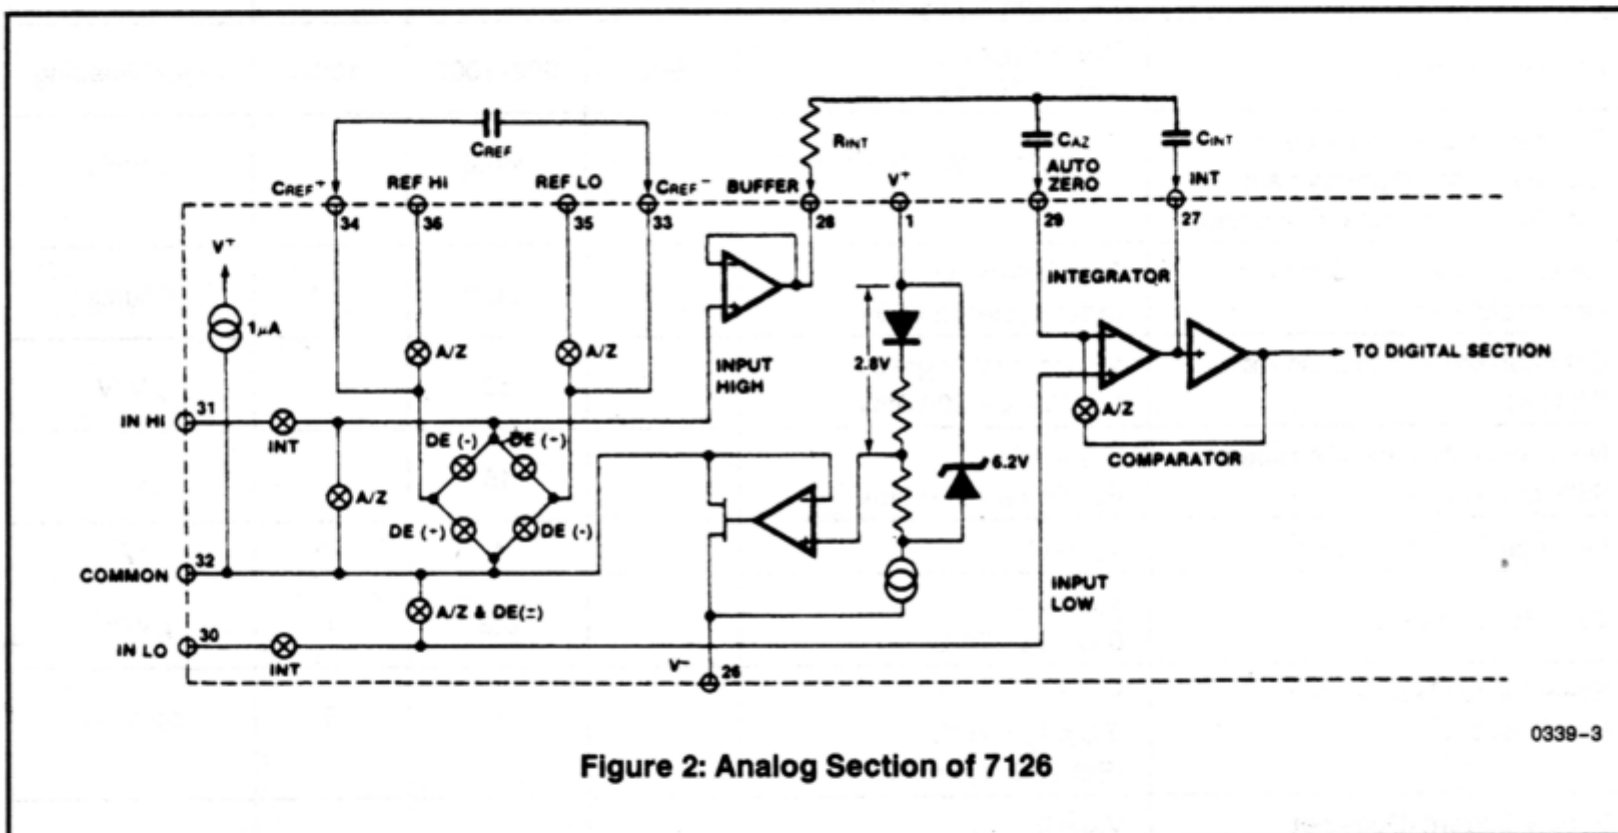

Figure 2: Analog Section of 7126
Figure 2 shows the Functional Diagram of the Analog Section for the ICL7126. Each measurement cycle is divided into three phases. They are (1) auto-zero (A-Z), (2) signal integrate (INT) and (3) de-integrate (DE).